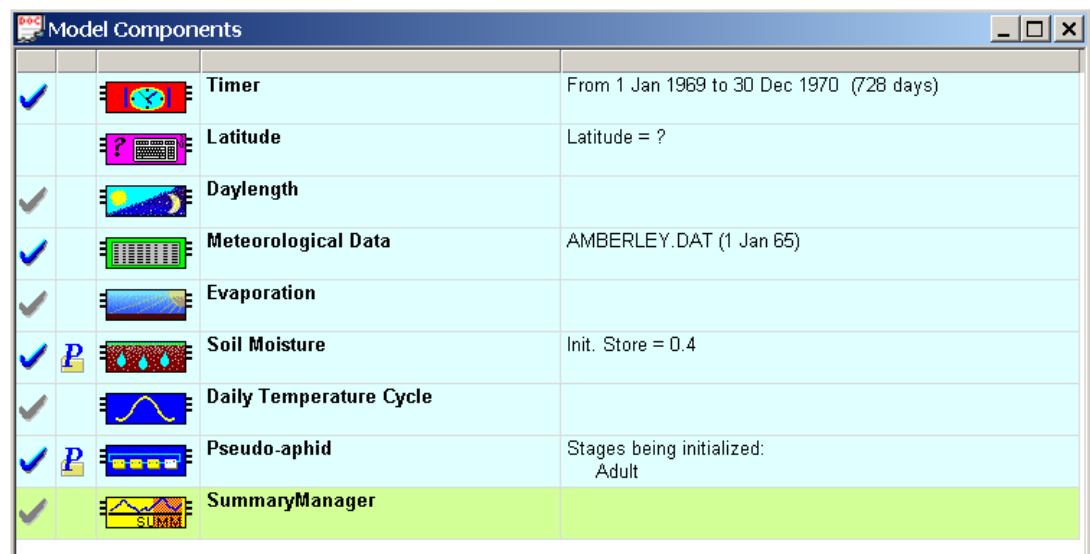

Figure 8-2 The Pseudo-aphid model incorporating Soil Moisture
1. Load the Simulator and open the pseudo-aphid file - the **“Model Components”** window should resemble Figure 8-2.